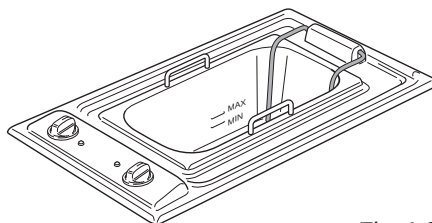

Fig. 1.3
The level must be between the minimum and maximum marks printed on the tray (fig. 1.3).
- Check the level of oil or fat, it must be between the minimum and maximum mark (fig. 1.3).